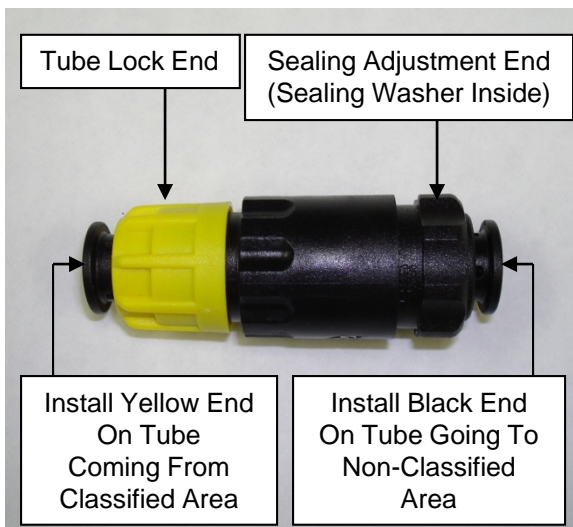

Figure 3
7.1 The Gas Blocking Coupling is a special push-fit coupling designed to connect standard 8mm OD tubes. When properly installed, it provides an internal gas blocking seal around an installed 2mm OD or 3mm OD fiber bundle. **See Fig. 3.**